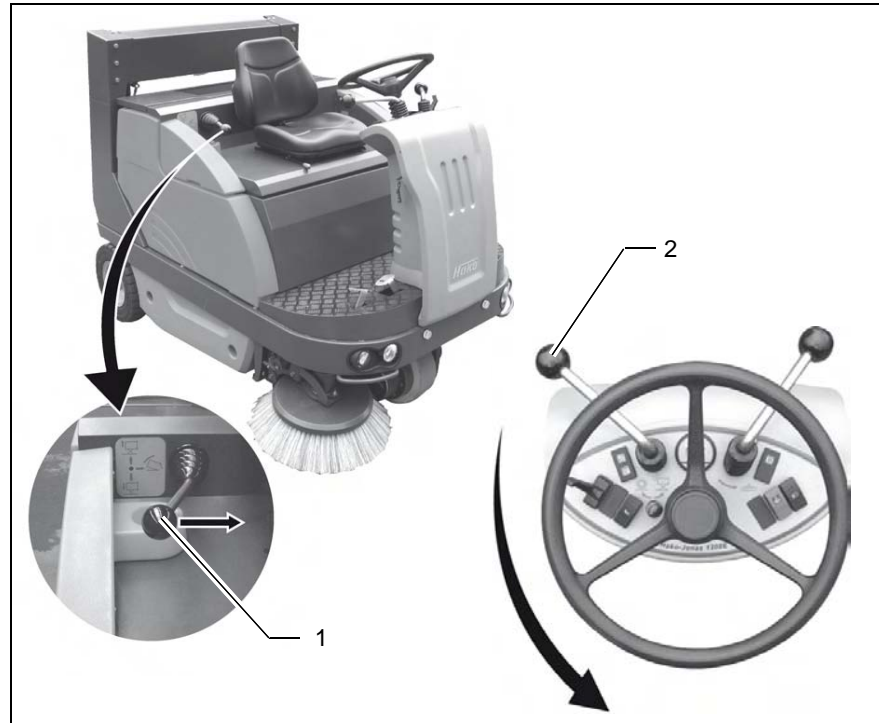

Fig.10
Pull lever for dirt hopper (Fig. 10/1) upwards and simultaneously pull the lever for sweeper roller and release for lifted-up disposal (Fig. 10/2) in arrow direction.
- Pull lever for dirt hopper (Fig. 10/1) in arrow direction, dirt hopper is swinging in emptying position.
Pull lever for dirt hopper (Fig. 10/1) down and simultaneously pull the lever for sweeper roller and release for lifted-up disposal (Fig. 10/2) in arrow direction.